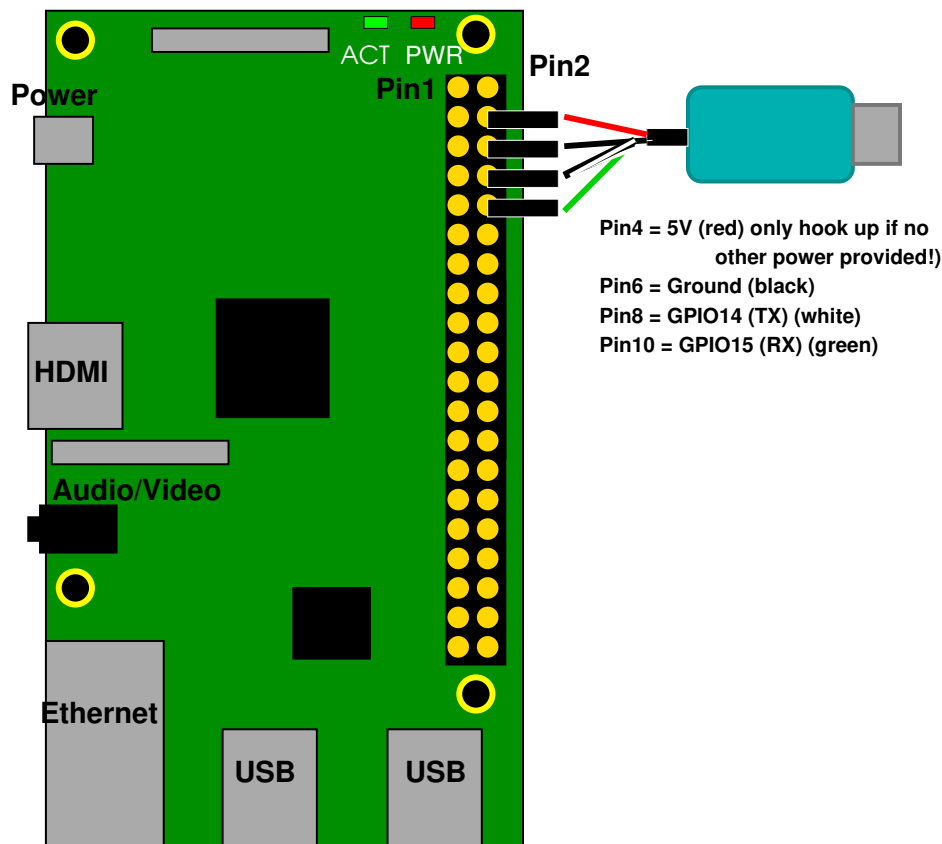

Figure 1: Raspberry Pi Serial Connection on Model-1B+
- Connect the serial to USB converter to your Pi as shown in Figure 1.
- On the Pi-1B+ models we are using it will probably be easiest to power your Pi via the serial cable as seen in Figure 1. If you do want to power it separately via the separate USB power connector be sure to not hook up the red wire from our USB-serial connector.